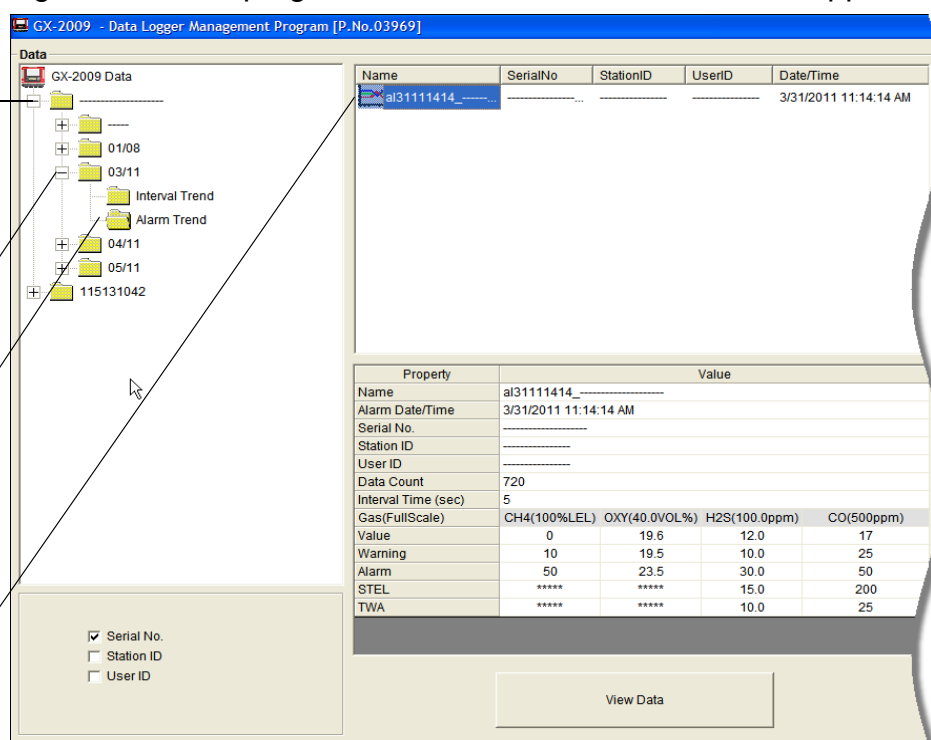

Figure 39: Data Window - Selecting Alarm Trend Data Files
- If you click the **Summary** button, the data window will split into two frames, one above the other, with the data table in the lower frame and the summary information shown in the upper frame. The summary information is the same as the information shown in the lower right frame in Figure 39.
- If you click the **Summary** button, the data window will split into two frames, one above the other, with the graph in the lower frame and the summary information shown in the upper frame. The summary information is the same as the information shown in the lower right frame in Figure 39. To return to the one frame format, click **Summary** again.